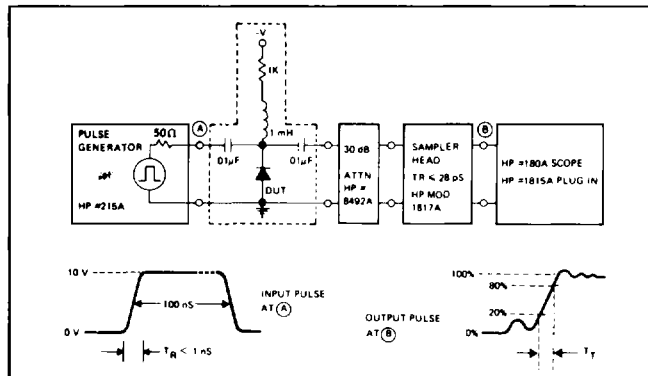

Figure 5. Transition Time, T_T , Test Set-Up
4. Measured at V_R = 10 volts, I_F = 10mA (see Figure 5).
5. Measured at V_R = 10 volts, I_F = 10 mA (see Figure 5).
5. Measured at $V_R = 10$ volts, $I_F = 10$ mA (see Figure 5).